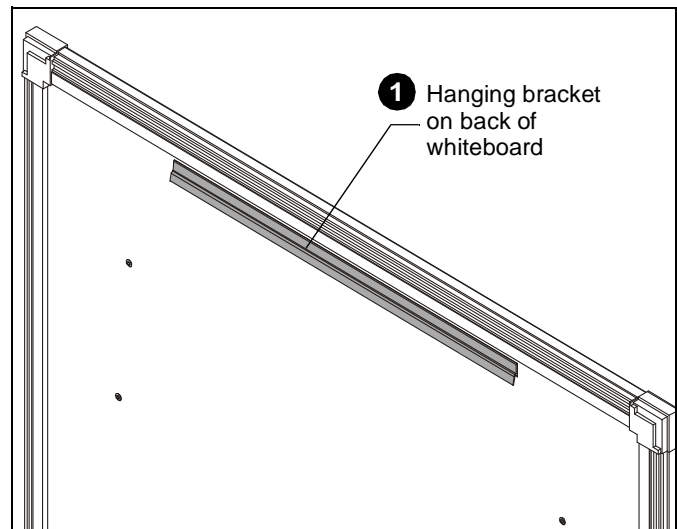

Figure 8
- Attach whiteboard to MSP-TEQ9 by hanging it on the upper whiteboard hanger bracket using bracket already located on back of whiteboard. (See Figure 8)